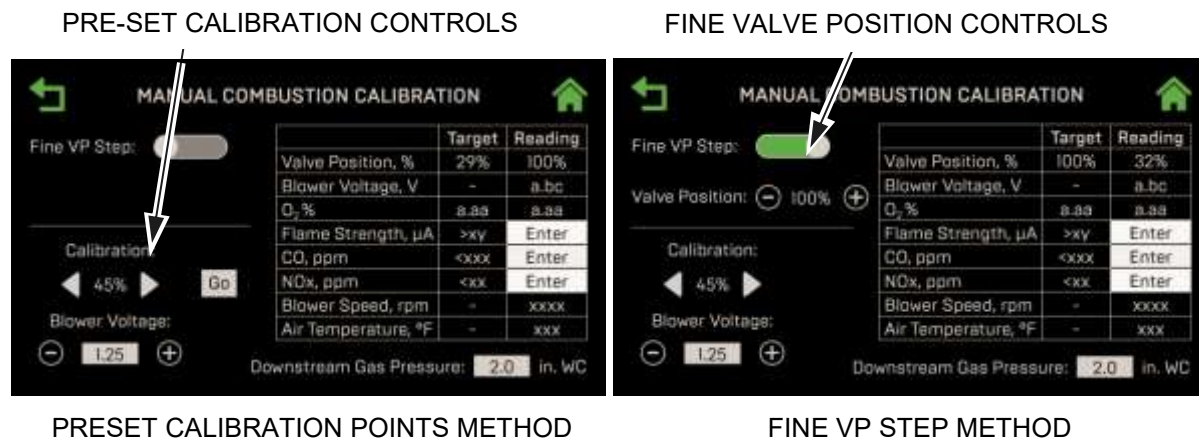

Figure 4-6: Manual Combustion Calibration Screens
17. Compare the combustion analyzer’s oxygen (O₂) reading to the **O₂** value in the **Reading** column (Figure 4-6). If they differ, go to the **Main Menu → Calibration → Input/Output → O₂ Sensor** screen and adjust the **O₂ Offset** parameter, up to ±3%, to make the on-board O₂ sensor match the value from the combustion analyzer. If your combustion analyzer is correctly calibrated, and the on-board O₂ sensor cannot be made to match the analyzer, the sensor may be defective and need to be replaced.
21. Compare the measured nitrogen oxide (NO_x) and carbon monoxide (CO) readings to the **Target** values in Table 4-2 (reference only). If you chose the NO_x ≤9 ppm in step 9, use the values in the **Ultra-Low NO_x** columns. If you are not in a “NO_x-limited” area and/or do not have a NO_x measurement in your analyzer, set the O₂ to the value in the **Standard NO_x** column below.